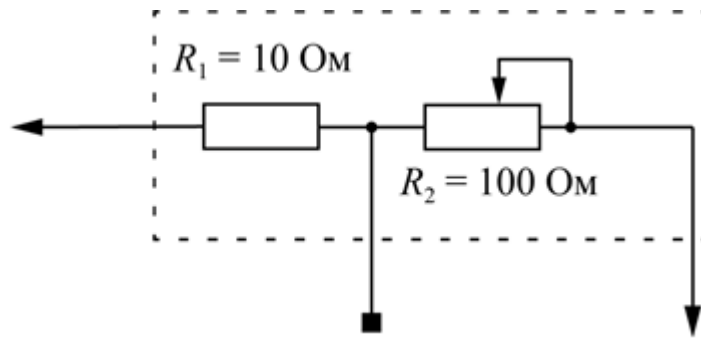

Fig. 3.
1. 4.5V battery. 2. Voltage regulation and measurement unit with three terminals, the diagram of which is shown in Figure 3 (). 3. Connecting wires. (three - crocodile-crocodile, four - crocodile-plug). 4. Glass syringe with a metal piston and needle cone. 5. Multimeters (2 pcs.). 6. A glass with a three percent salt solution. 7. A bottle of clean water (for washing the syringe). 8. An empty glass for draining the used solution. 9. Ruler. 10. Napkins and a plastic plate to keep your work area clean. 11. Graph paper (2 sheets).